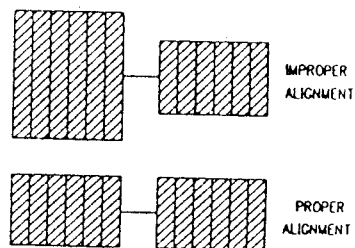

Figure 9
- 3) Adjust L508 for the flat level of amplitude in each colour bar waveform on the scope (See Fig. 9)